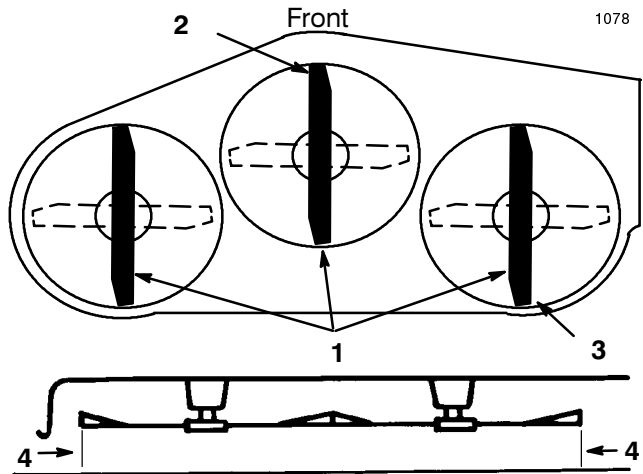

Figure 55
5. Move the height-of-cut lever (deck lift) into the "C" notch and carefully rotate the blades so they are facing front to rear (Fig. 55).
6. Measure between the tip of the front blade (Fig. 55) and the tip of the rear blade to the flat surface. If the front blade tip is not $0\text{--}\frac{5}{16}$ " (0–8 mm) lower than the rear blade tip an adjustment front mower mounting plate at axle (Fig. 55).